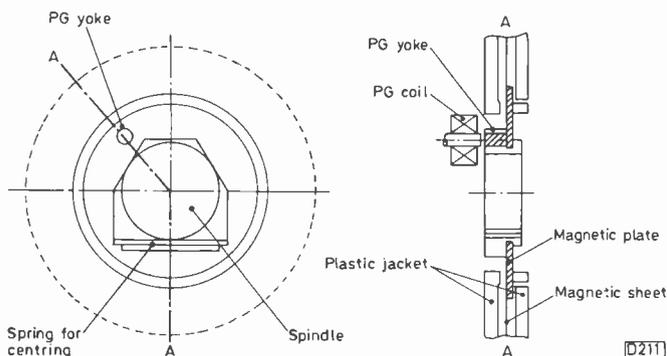

Fig. 3: The disc hub and drive spindle.
reading or writing the hub contains a pulse generator (PG) yoke and the drive a PG coil (see Fig. 3).